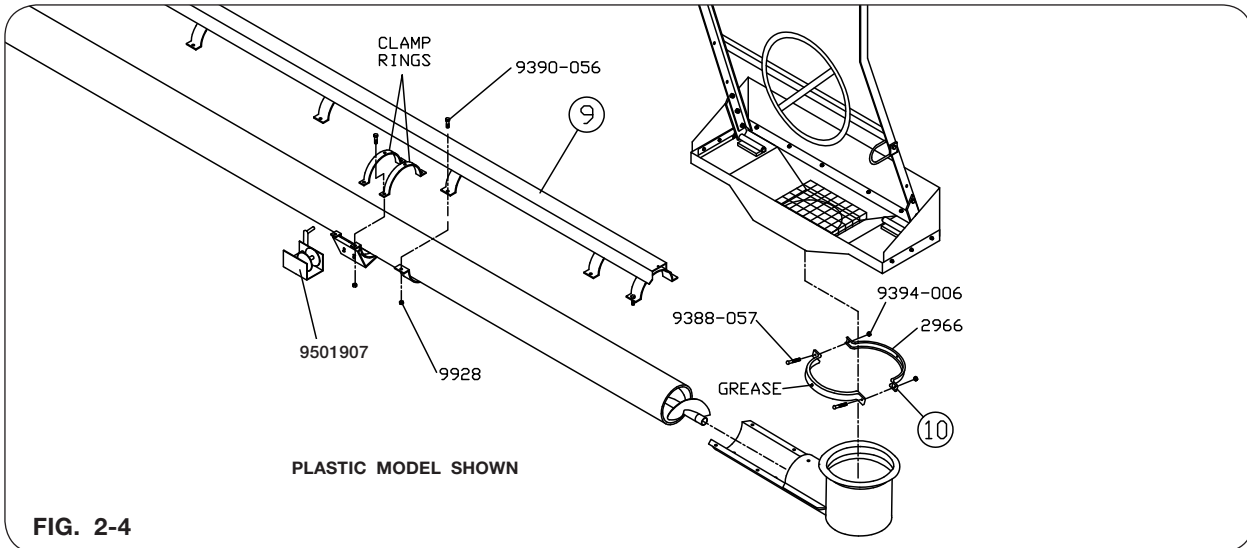

FIG. 2-4
In order to place the winch bracket on the auger tube, the lift brace clamp rings must be removed or loosened enough to allow the winch bracket to fit under the intake end of the brace (FIG. 2-4). After loosening, lift or pry up the brace to provide “passing” clearance for the winch bracket flanges.
8. With the winch bracket (9501907) properly located, attach the clamp rings using four 3/8"-16UNC x 1 1/4" cap screws (9390-056), locknuts (9928). Mount the winch as described above using 3/8"-16UNC x 1" cap screws (9390-055), flat washers (9405-076), and locknuts (9928). (FIG. 2-4)
Check position of lift brace and winch bracket and tighten all clamps securely. (FIG. 2-4)
10. Using a safe lifting device rated at a minimum of 500 lbs., connect the swivel base to the auger hopper outlet using two swivel clamps (2966), 3/8"-16UNC x 2 1/2" carriage bolts (9388-057), and 3/8"-16UNC hex nuts (9394-006) (FIG. 2-4). Then grease.